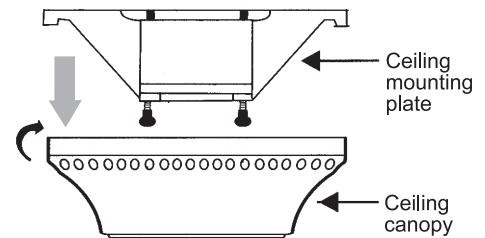

Figure 5
**Step 1.** Remove the hanger bracket from the canopy by loosening the two screws on the bottom of the hanging bracket a half turn from the screw head and turning the canopy counter clockwise.(Fig. 5)